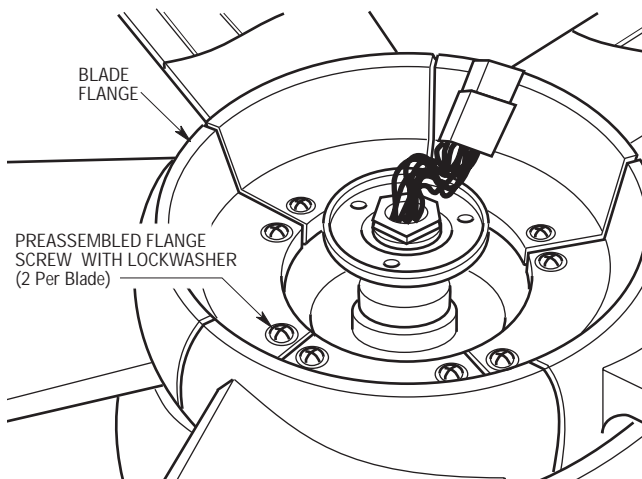

Figure 11
- 14. Attach the blade assembly to the motor hub using the two flange screws with lockwashers preassembled in flange. Make sure the screws are tightened securely (Figure 11). Repeat this procedure for the other four blade assemblies.